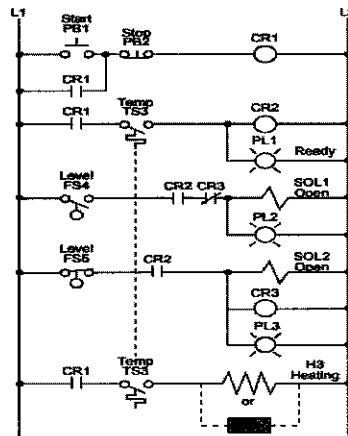

Figure 1: Electromechanical Relay Circuit
1. Figure 1 shows an electromechanical relay circuit. For the circuit shown in Figure 1,